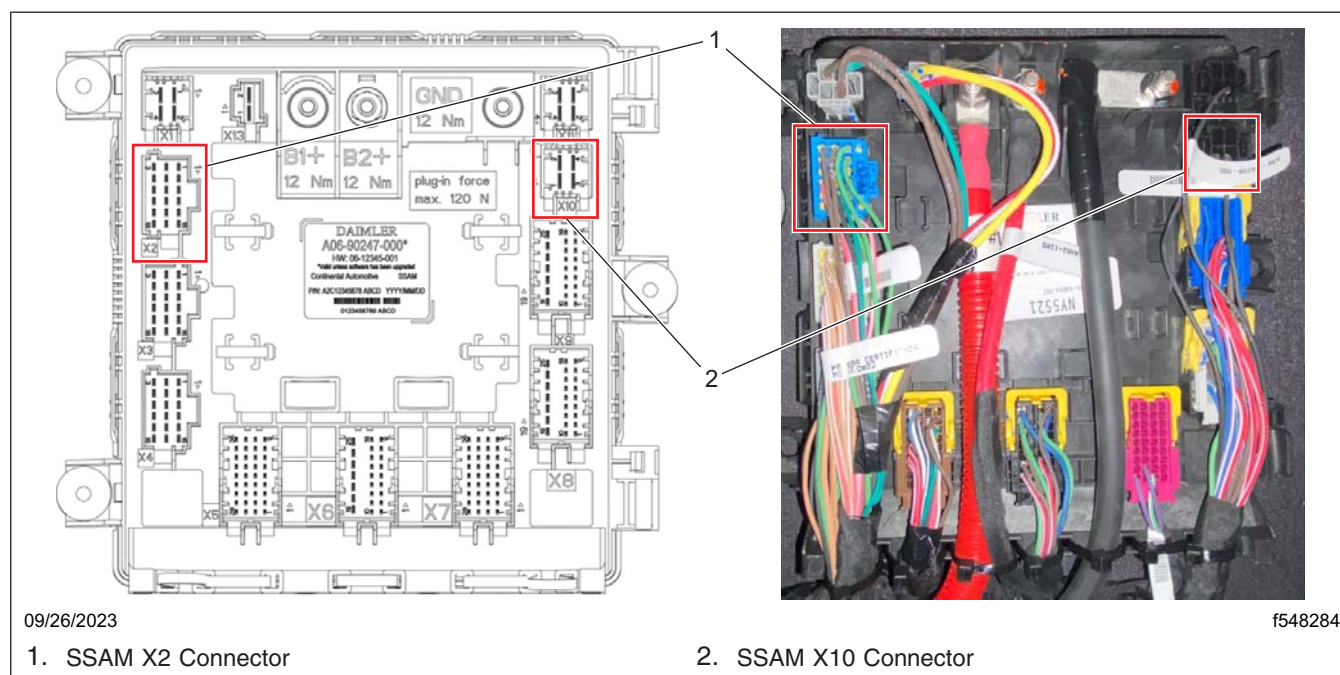

Fig. 16, Location of the SSAM X10 and X2 Connectors
8. Route the longer blue and black wires to the SSAM X10 connector. Route the shorter blue and black wires to the SSAM X2 connector. **Figure 16** shows the location of the SSAM X10 and X2 connectors.
- 9.1 Remove the X10 connector from the SSAM. See **Fig. 16**.
- 10.1 Remove the X2 connector from the SSAM. See Fig. 16.